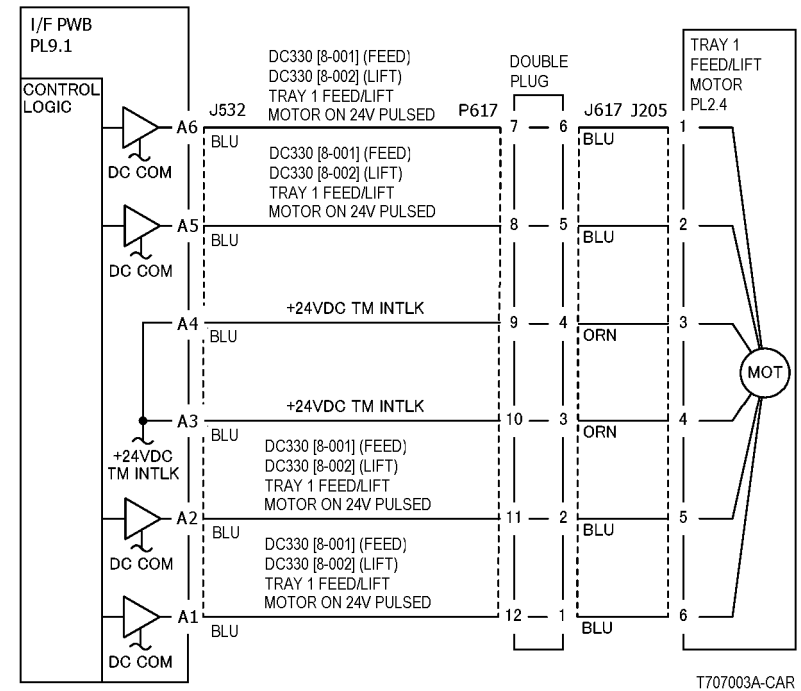
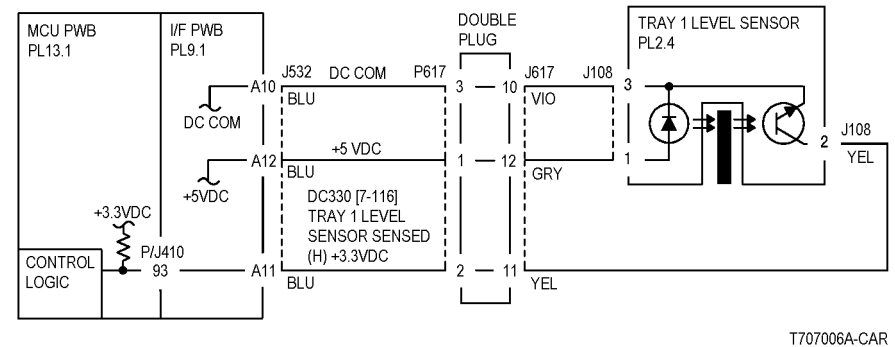

Figure 1 Tray 1 Lift/Feed Motor
Figure 2 Tray 1 Level Sensor
Press Stop. Check the circuit of the Tray 1 Level Sensor (Figure 2). Refer to the OF 99-2 RAP for troubleshooting procedure.
- Ensure that the connectors shown in the circuit diagrams (Figure 1, Figure 2) are securely connected and that the wires are not damaged.